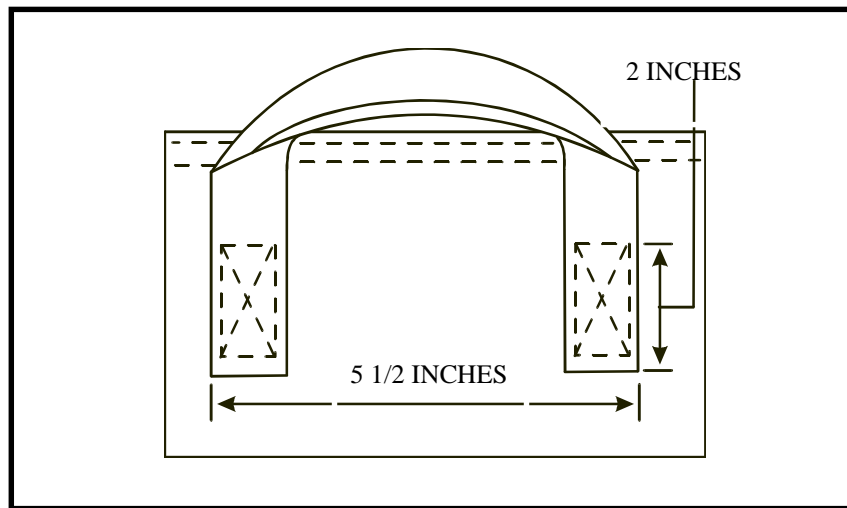

Figure 13-18. Plain webbing handle
a. Plain Webbing Handle. A plain webbing handle (Figure 13-18) is used when the strain is carried along the vertical plane of the item. To make this handle--
- (1) Cut a piece of webbing 12 inches long.
- (2) Position the webbing on the canvas item so that it forms an upside-down U. The outside edges should be 5 1/2 inches apart.
- (3) Turn under each end 1/2 inch.
- (4) Stitch each end of the handle in place by sewing an X-shaped seam that is about 2 inches long.